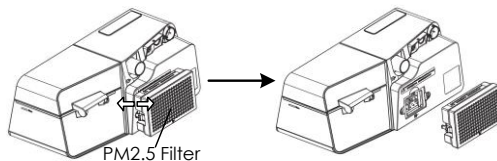

Fig. 16-9
(3) Disassemble the PM2.5 Filter from the device, as shown in Fig. 16-9.